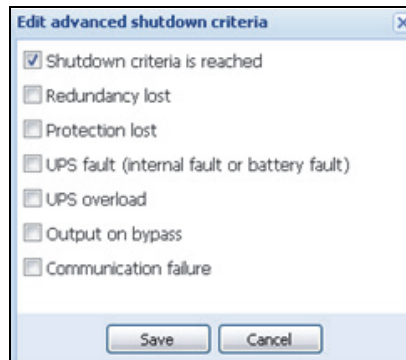

Figure 30. Edit Advanced Shutdown Criteria Dialog Box
- When Network Management Card or UPS shutdown criteria is reached. This decision is according to the criteria selected in the Edit Advanced Shutdown criteria dialog (see Figure 30).
3. Click **Edit advanced shutdown criteria**. The Edit Advanced Shutdown Criteria dialog box displays (see Figure 30).